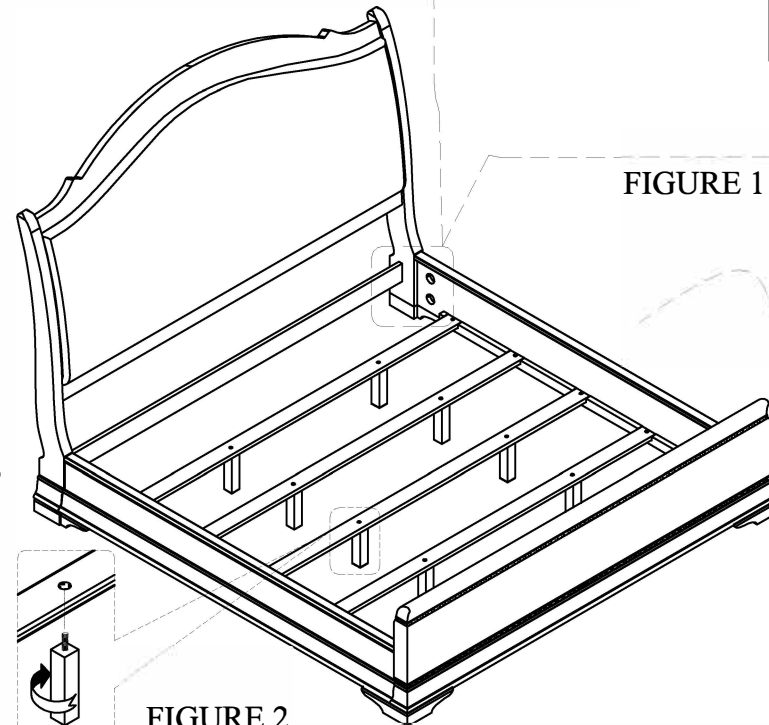

FIGURE 2
- STEP 3. Assemble the leg supports to the bed slats. See Figure 2.